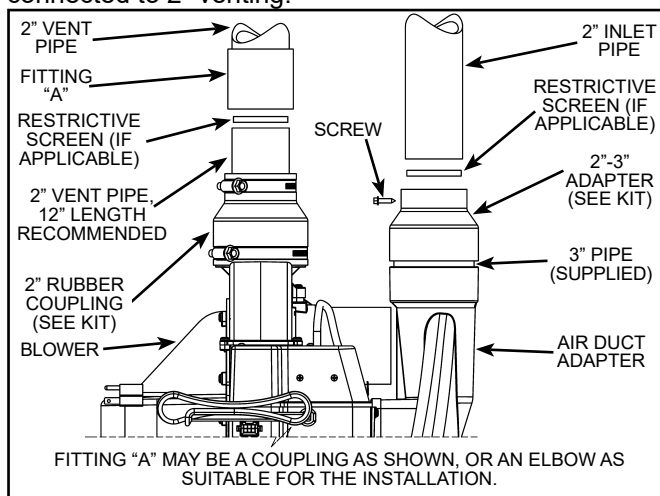
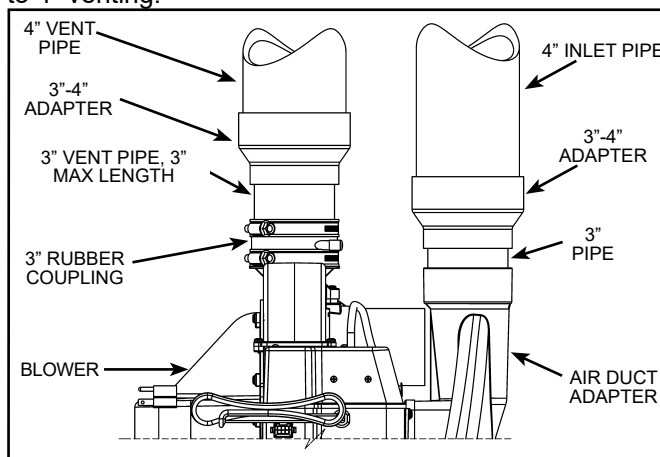

Figure 45.
Figure 47.
4. Make sure that the plastic tubing is still attached from the air pressure switch to the port on the blower motor housing. Make sure the plastic tubing is not folded anywhere between the pressure switch and the blower motor housing (see Figure 45 through Figure 47).
Important: These connections must be properly seated and tightened to prevent the leakage of flue gases into the area. See Figure 45 through Figure 47.
Figure 45 shows the configuration for heaters direct connected to 2" venting.
Figure 47 shows the configuration for heaters connected to 4" venting.
The restrictive screen (see Figure 39) and the air intake piping should be secured in place with a screw. To prevent damage to the equipment, first position the restrictive screen in place, then drill a pilot hole suitable for the screw being used. The screen must be fully seated and the screw should not interfere with the airflow through it. Once the pilot hole is drilled, place the intake pipe in position and secure in place using the screw (see Figure 45 through Figure 47). Do not use glue to secure this joint in order to allow the screen to be removed for cleaning. The screen in the exhaust piping should be located close to the blower and all exhaust piping joints should be glued.
If the installation requires restrictive screens (see Figure 39) the restrictive screens should be installed near the blower as shown in Figure 45 through Figure 47. If the restrictive screens are installed near the blower, it is recommended that debris screens (see Figure 39) be installed at the terminations.